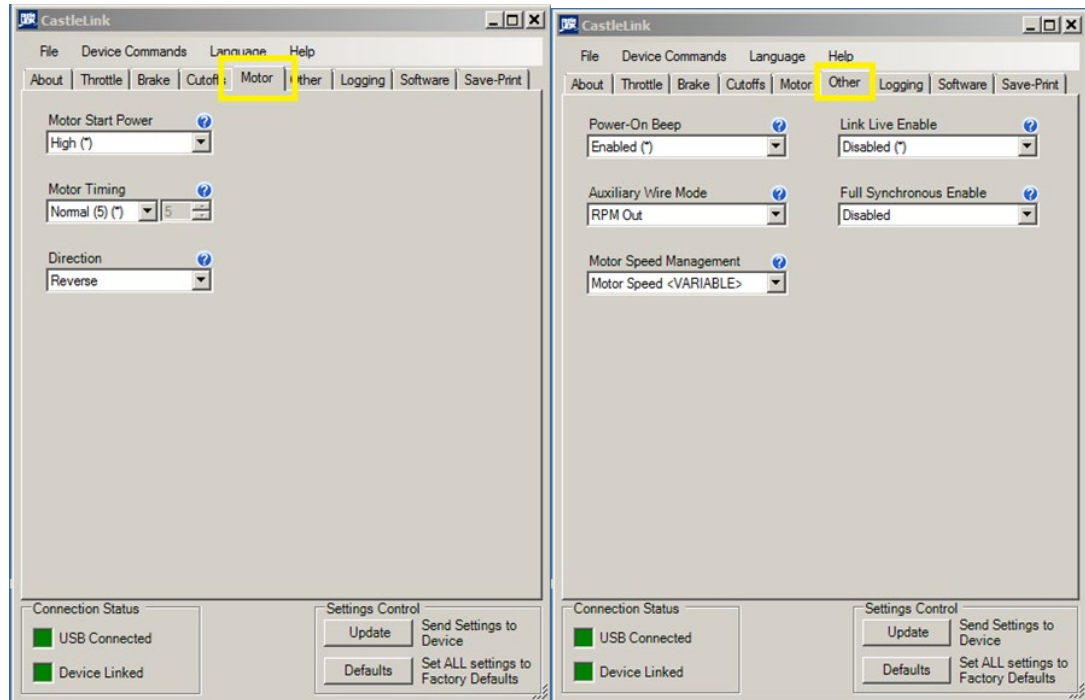

Figure 9: Software Interface Screens
4. Figure 9 displays the most commonly modified settings. Contact Kawak Customer Support for information before modifying any of the optional settings.
- The below table describes the common modifications from Figure 9: